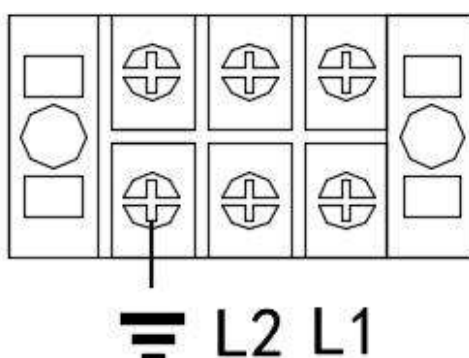

Figure 12 1 (2L) phase, 215-240V
- Take off the back cover of the generator, insert the power wire into the hole at the back of the generator case and connect to the correct terminal. (Refer to figure12- 14)